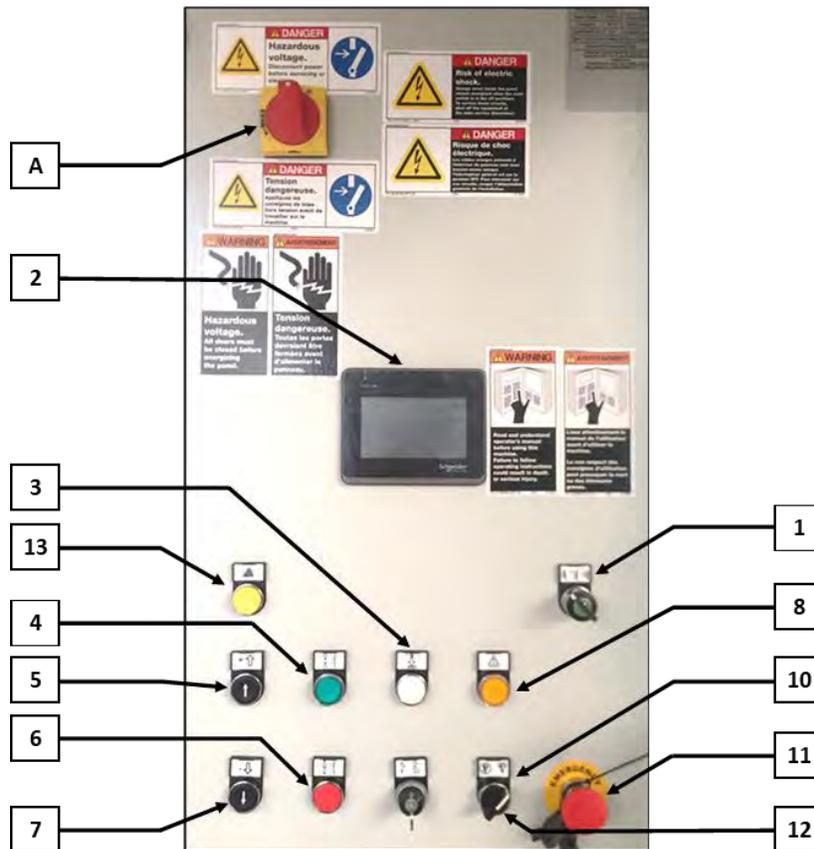

Figure 7.2
With reference to figure 7.2, the onboard control panel includes:
- S3. Destination floor:** Use arrows (pos. 5&7 in figure 7.2) or press directly on the number on the display. Destination can be modified when the hoist stops and is “FREE”.